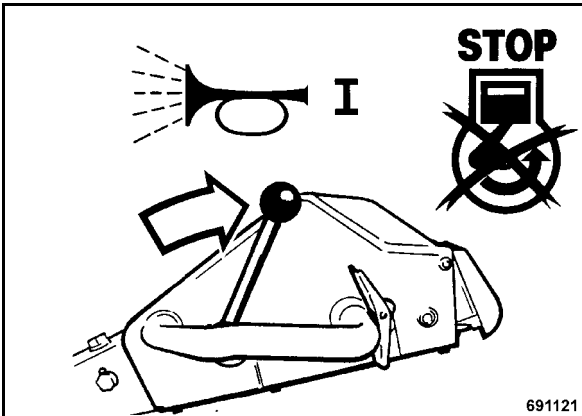

Fig. 39
- Set the throttle lever to position "STOP" (Fig. 39), the warning buzzer sounds.